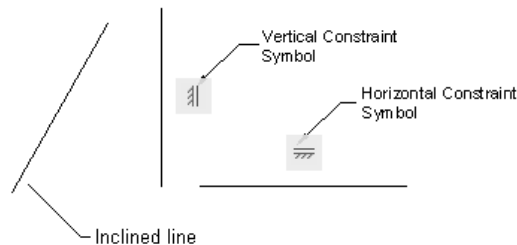

Figure 11-1 The Vertical and Horizontal Constraint symbols
On applying a constraint to an entity, the corresponding symbol is displayed near the entity, see Figure 11-1. If you move the cursor over the symbol, the symbol will get highlighted and a cross mark (X) will be displayed. Click on the symbol to hide the symbol. However, if you place the cursor on the entity on which a constraint is already applied, a glyph will be displayed stating that a constraint is applied.